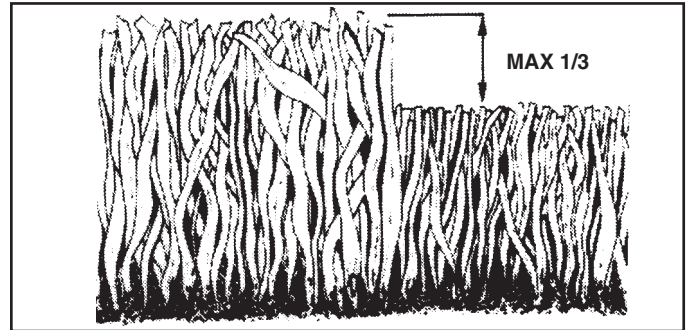

FIG. 13B
- For best results, adjust the mower cutting height so that the mower cuts off only the top one-third of the grass blades (See Fig. 13B). For extremely heavy mulching, reduce your width of cut on each pass and mow slowly.